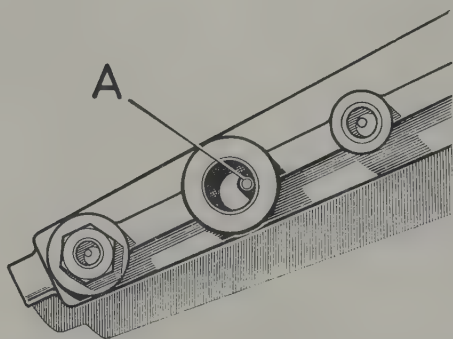

Fig. 9.53. Location of secondary piston stop pin (A) (Lockheed servo unit)
- 7 Unscrew the fluid inlet adaptor or if a circlip is used remove it and remove the secondary piston stop from the base of the port (Fig 9.53).